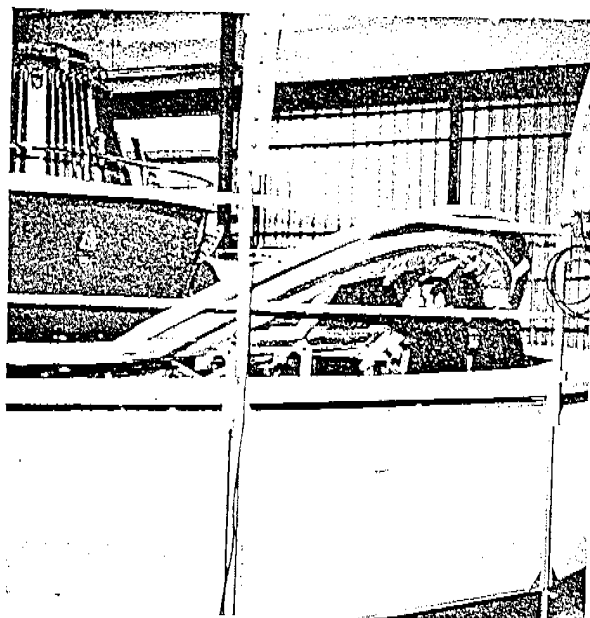

Fig. 32
- b. Lower the wing tip by hand. CAUTION: Lowering the wing tip takes at least two men or more to safely handle the weight. (Fig. 32)